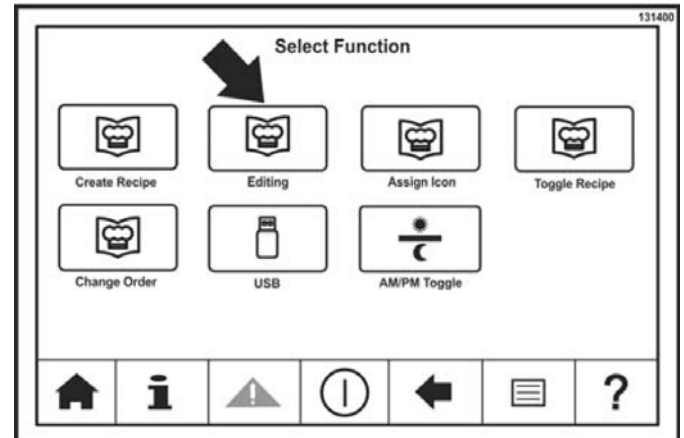

Figure-62
6. Select the Editing key. See Figure-62.